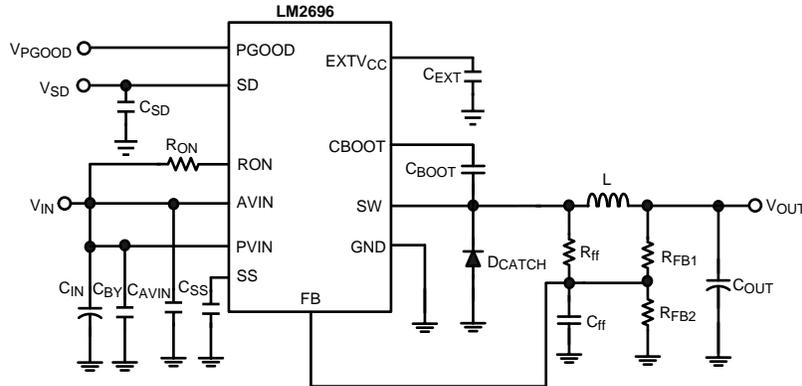

Figure 28. 12V-to 3.3V Voltage Applications Circuit
(1) (Figure 28: Medium Voltage Board, 12V-to-3.3V conversion,  $f_{sw} = 300$  kHz)